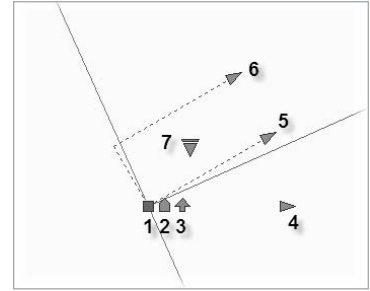

Figure 2.17
4. Zoom in on the new block placement and select it to activate the grips shown in Figure 2.17.
Because not many Civil 3D users spend a lot of time playing with the dynamic block feature in Civil 3D, let's look at the grips numbered in Figure 2.17 and how to use them.